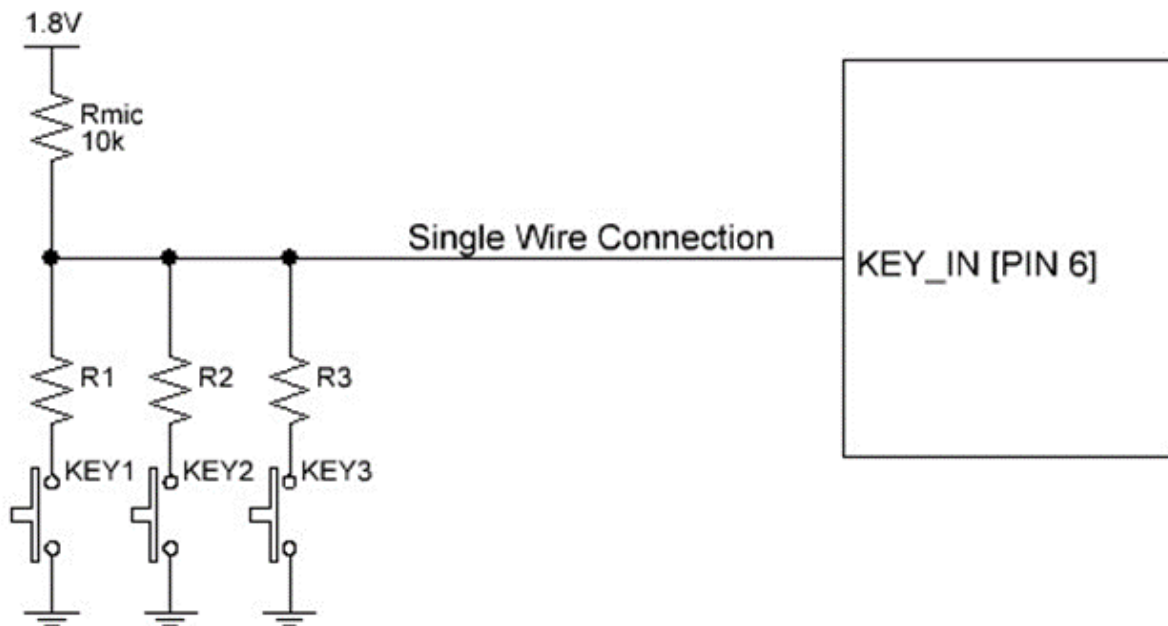

Figure 1. Key Detection Schematic
This application note will explain how to build a multi-level comparator for single wire, multi-key detection using three components in GreenPAK4: the ADC block, the digital comparator (DCMP) and the analog comparator (ACMP). This concept is useful when trying to decode an analog input voltage that varies with external circumstances. For this application note, this analog voltage will be varied using three input buttons as shown in Figure 1.
Figure 1 shows the button pressing schematic for this design. By pressing KEY1 (or KEY2/KEY3), R1 (or R2/R3) forms a resistive divider with R_{mic} and produces an analog voltage at KEY_IN. This single wire design reduces the number of hardware connections between the KEYS and KEY_IN. In order to choose resistor values, one needs to determine the desired KEY_IN voltages for each button press. In this particular design, R_{mic} has been set to 10 k Ω . Table 1 shows the desired voltages for single key button presses.
An example Bluetooth (BT) headset has 3 keys (Play, FF, and RFF) on the left side and 3 keys (Talk, Volume Up, and Volume Down) on the right side of the headset. Without this design, three wires would have to run from each side of the headset to a central node where all six buttons would be decoded. This design reduces the number of wires to two: one single wire connection from Figure 1 on each side of the headset.